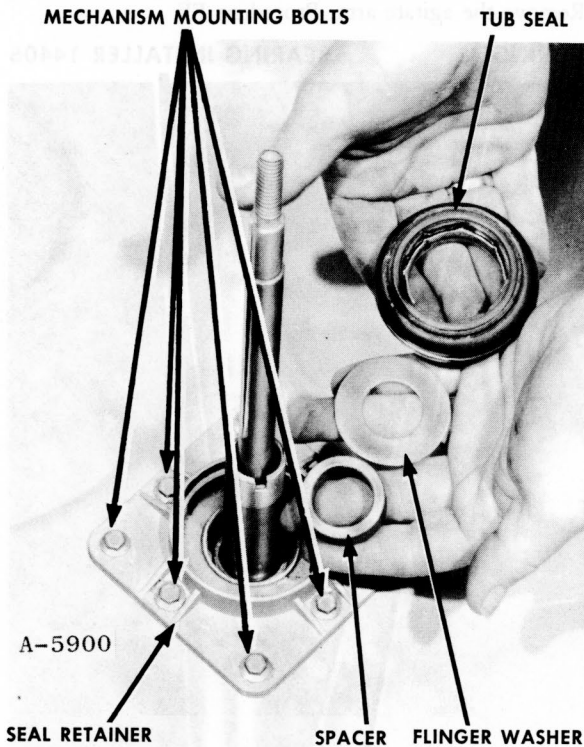

Figure 126
8. Remove the 8 bolts from the seal retainer inside the outer tub, Fig. 126 and 127.